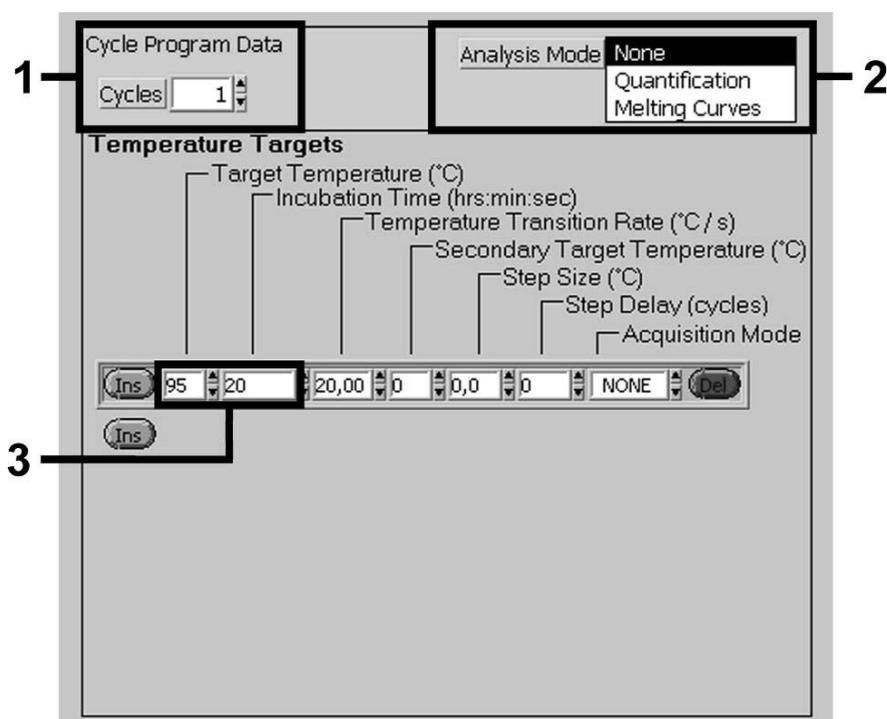

Fig. 3: Initial Activation of the Hot Start Enzyme.
For the detection of HBV DNA, create a temperature profile on your *LightCycler* 1.1/1.2/1.5 Instrument according to the following three steps (see Fig. 3 – 5).
- A. Initial Activation of the Hot Start Enzyme Fig. 3